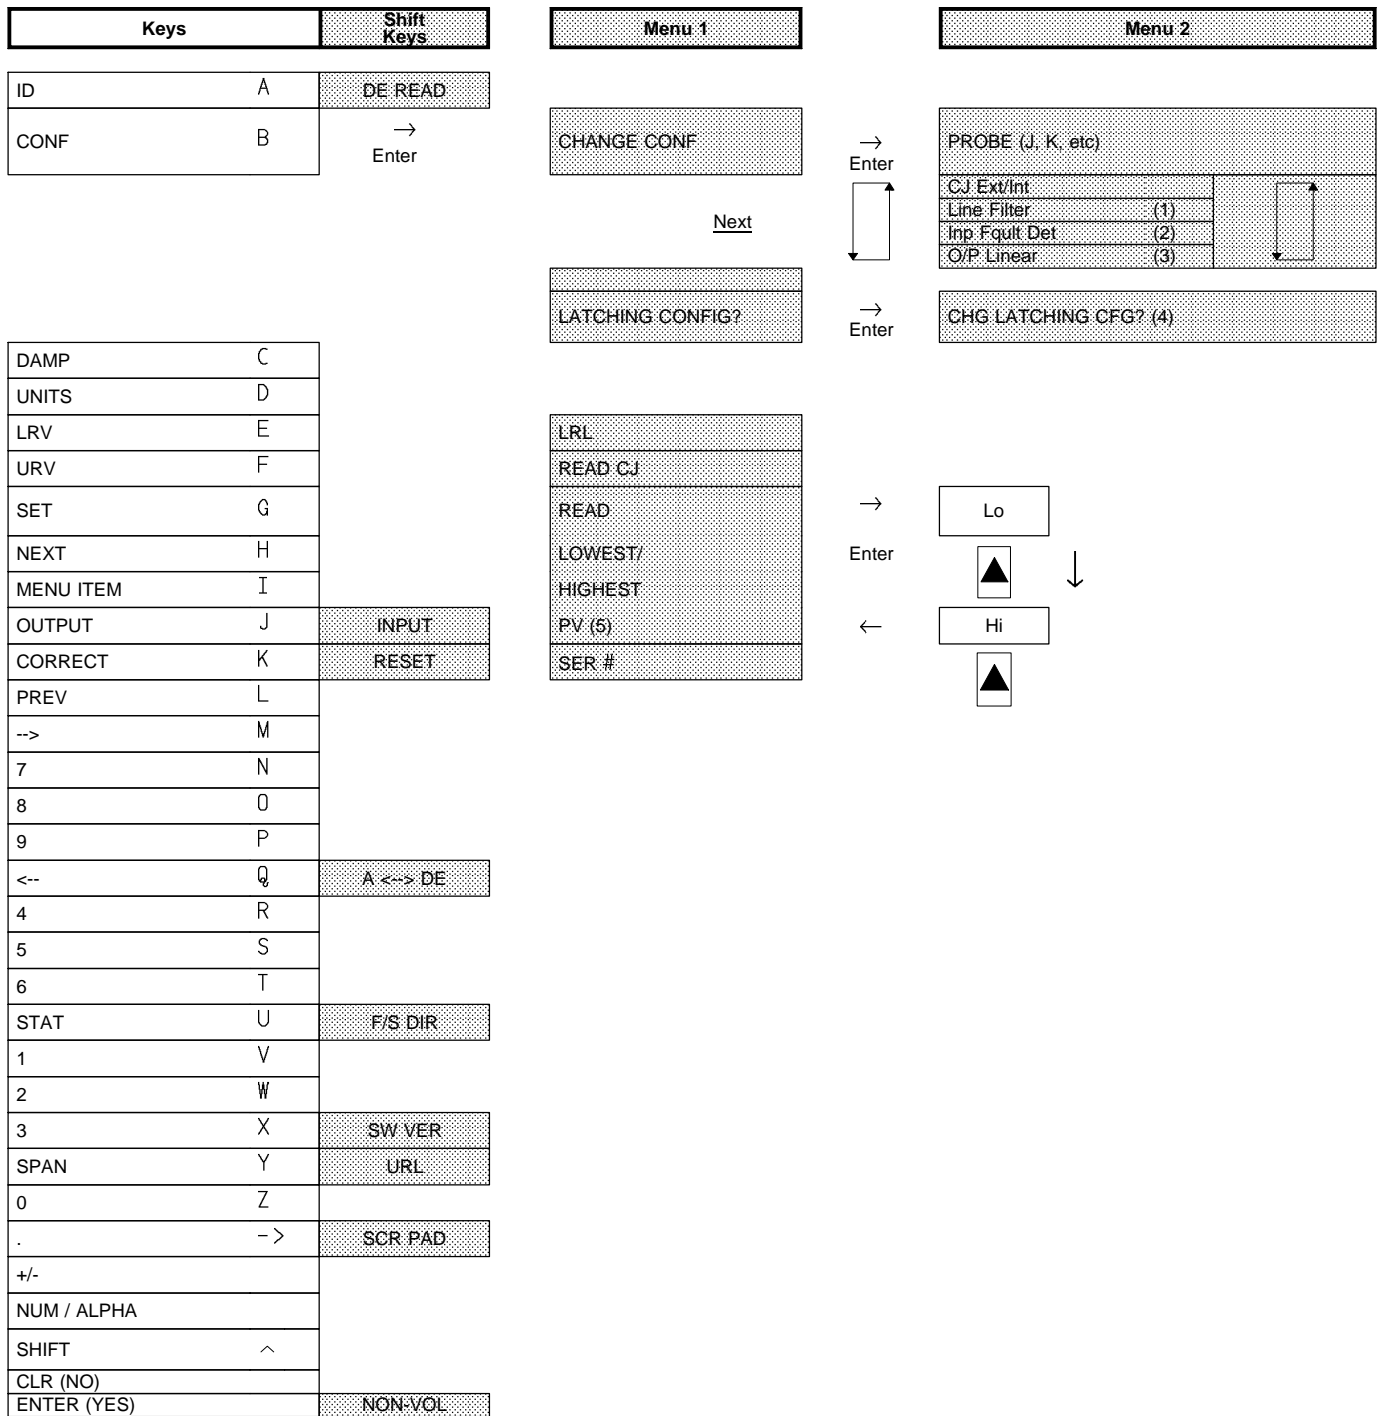

Figure 4-3 Flow chart (Apply to STS101)
- Redundant T/C: T/C 1 should be wired between terminals 4 and 3, T/C 2 (back-up) should be wired between 4 and 2. When "sensor fault detection" is active (See figure 4-3), the analysis of TC1 and TC2 is done continuously. The measurement is made with the best of TC1 and TC2.
The emittance for RH sensor must be entered as follows: Configure the cold junction compensation as External (See figure 4-3) and key in the emittance value (min.: 0.1, max.: 10.0) instead of the external cold junction compensation temperature.
Press status to verify "**status check = OK**" is displayed. Press "**shift**" then "**units**" to access the transmitter database and configure it as required. As mentioned earlier the default shipping mode for units is mV input, 0 - 45 mV range etc. You can now customise the unit to your specific application. The flow chart in Figure 4-3 gives simplified overview of selections and key strokes.
This addendum outlines additional steps for the Configuration Flow Chart in Figure 4-3 of this Operator Manual to configure parameters for DE communications mode and change transmitter operation from analog to digital DE communications. The DE configuration parameters are:
STT350 Configuration Flow Chart: Use the following flow chart to supplement in Figure 4-3 if you want to set your STT350 for DE communications operation.
Continued from Figure 4-3	Ready